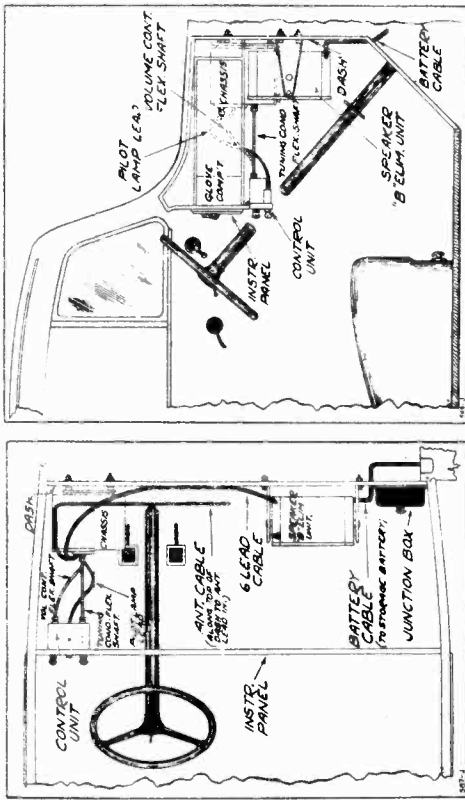
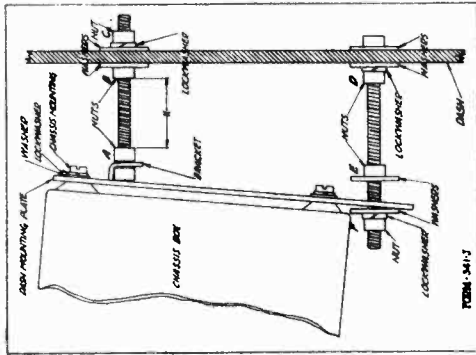
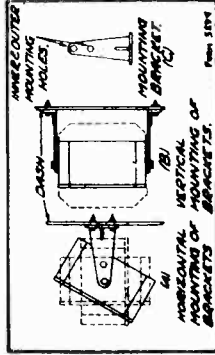
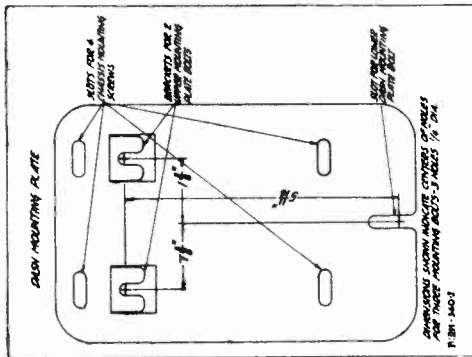

Fig. 1—General Installation—Top View
Fig. 4—Details of Chassis Mounting on Dash after which the lockwashers and nuts are then put on.
Fig. 5—Method of Mounting Speaker
Fig. 3—Dash Mounting Plate
The four mounting screws pass through the four slots in the mounting plate (Fig. 3). After they are in place and tight, the dash mounting plate with chassis attached is slipped over the three mounting bolts. The two upper brackets on the plate slip down in back of nut "A," as shown in Fig. 4 and the
The control unit is mounted to the instrument panel as shown in Figs. 1 and 2. In the 1932 and 1933 models there are two holes on the flange at the bottom of the instrument panel on the left side, which line up with the two holes on the mounting lugs of the control unit. In the earlier models it will be necessary to drill these holes. Two 1/4" holes with centers 4 7/8" apart are required. The best location
The speaker—"B" eliminator is mounted on the back of the dash by means of two brackets, as shown in Fig. 5. The best location is at the right side of the dash under the glove compartment as shown in Figs. 1 and 2. It should be mounted with the brackets at the side as shown in (A) Fig. 5, and with the inner bracket mounting holes as indicated in (B) Fig. 5. The box is mounted with the tone control knob at the upper left, as shown in Fig. 1. The
Before mounting the chassis read the articles on "Mounting the Control Unit" and "Attaching the Flexible Drive Shafts." Hold the control unit in position or mount it in place temporarily, so that the position of the flexible shafts can be determined. The chassis is mounted in back of the dash at the left side, as shown in Fig. 1. It should be mounted in such a way that the tuning condenser flexible drive shaft to the control unit will be in substantially a straight line as shown in Figs. 1 and 2. The chassis is mounted with the anchor bushings in which the flexible shafts go, facing the control unit, and with the cover at the bottom. It is secured to the dash by means of the dash mounting plate, see Fig. 4. In some of the earlier models it will be necessary to move the cut-out box to a higher location in order to mount the chassis.
First drill the three mounting holes required for the dash mounting plate. The location and size of these holes is shown in Fig. 3. A template for drilling these holes is supplied with the set. Three 4" square head mounting bolts are supplied. Take two of these, which will be used for the upper part of the mounting plate and screw on nut "A" (see Fig. 4). The nut should be "just" far enough away from the head of the bolt to permit the bracket of the mounting plate to slip down as shown in the illustration.
Ignition and Generator Noise," before this can be done. In Fig. 5 (B) is shown how the brackets may be mounted vertically if space does not permit their being mounted horizontally, as is the case in some cars.
After the chassis is temporarily mounted and the position of the control unit is known, the flexible shafts may be attached. Remove the chassis from the mounting bolts to make the connection. Two flexible shafts are supplied with the Cadillac and LaSalle auto receiver, one 9" and one 12" long. The 9" shaft is the tuning condenser flexible shaft and is put on in substantially a straight line, as shown in Figs. 1 and 2. The 12" shaft is the volume control shaft. This shaft bends upward from the control unit, as shown in Fig. 2.
As shown in Figs. 1 and 2, the battery cable is brought down the dash, through a hole in the dash and thence over to the battery. It passes through the raised portion of the battery compartment cover.
The six-lead cable between the chassis and the speaker—"B" eliminator is usually brought over along the dash as shown in Fig. 1.